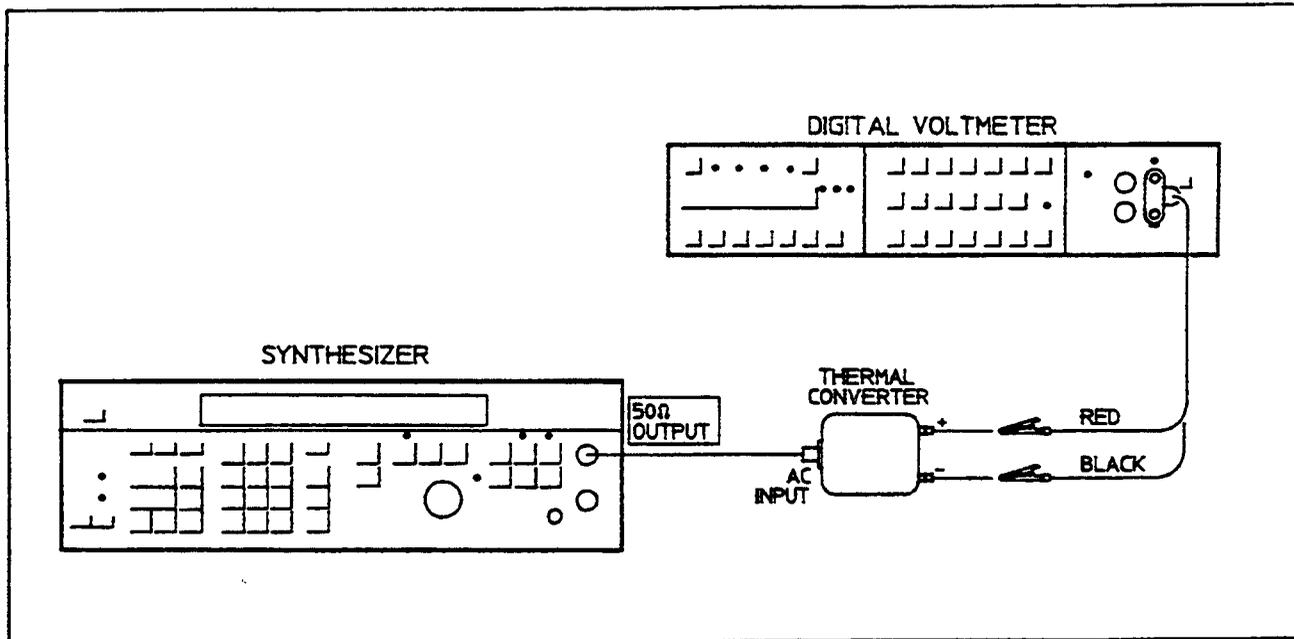

Figure 4-7.
- d. Remove the 50 $\Omega$  termination and cable from the DVM. Connect the 50 $\Omega$  thermal converter output to the DVM. Then connect the 3335A through the cable(1) to the thermal converter input. This sequence protects the thermal converter from damage. Set the voltmeter to the dc mode. (See Figure 4.7.)
(1) Be sure to use the same cable as used in step a.